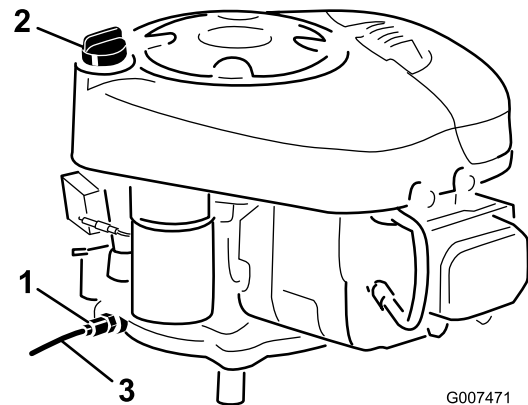

Figure 22
9. Insert the draining tube onto the oil drain valve (Figure 22).
11. Open the oil drain valve (Figure 22).